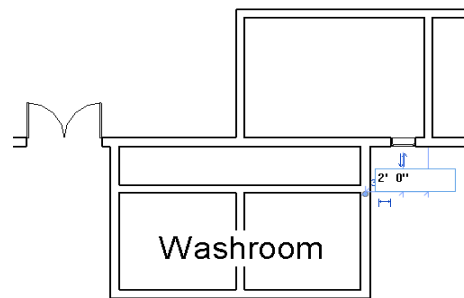

Figure 3-84 Specifying the location of the IT Server window
7. After adding the window in internal wall of the IT Server room, you need to move it to the exact location. To do so, select the window; it is highlighted in blue. Click on the left temporary dimension; an edit box is displayed. Enter **2'0"** for Imperial or **600 mm** for Metric in the edit box, as shown in Figure 3-84, and then press ENTER; the window is moved to the desired location. Press ESC and exit.